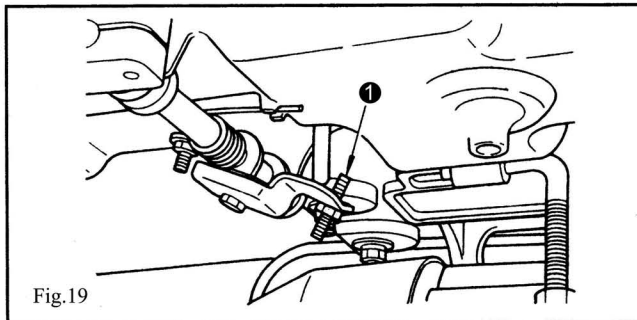
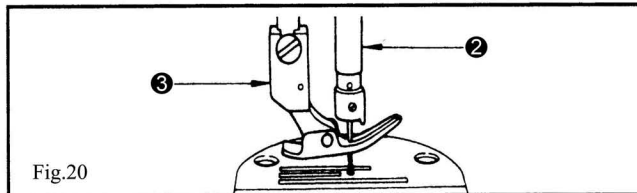

Fig.19
Fig.20
14. Adjusting the height of the knee lifter (Fig.19, Fig.20)